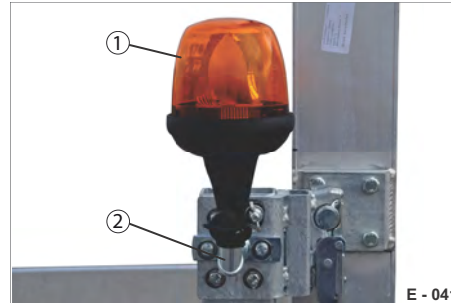

Fig. 33 Rotating light, installed
- ▶ Release the wing nut (Fig. 33/3).
- ▶ Carefully pull the light body (Fig. 33/1) from the console (Fig. 33/2).